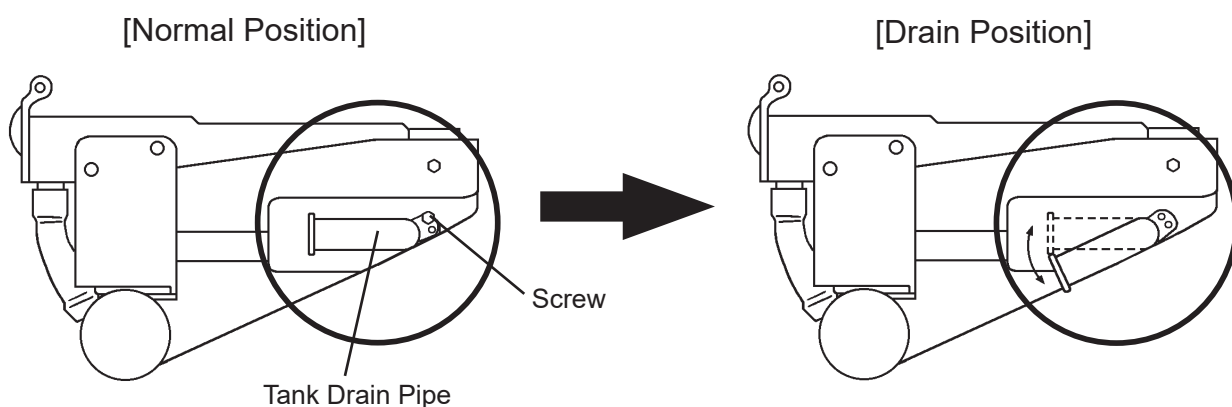

Fig. 9
- 1) Remove the screw located on the front of the water tank. Move the tank drain pipe to the drain position (see Fig. 9). Secure the tank drain pipe with the screw.